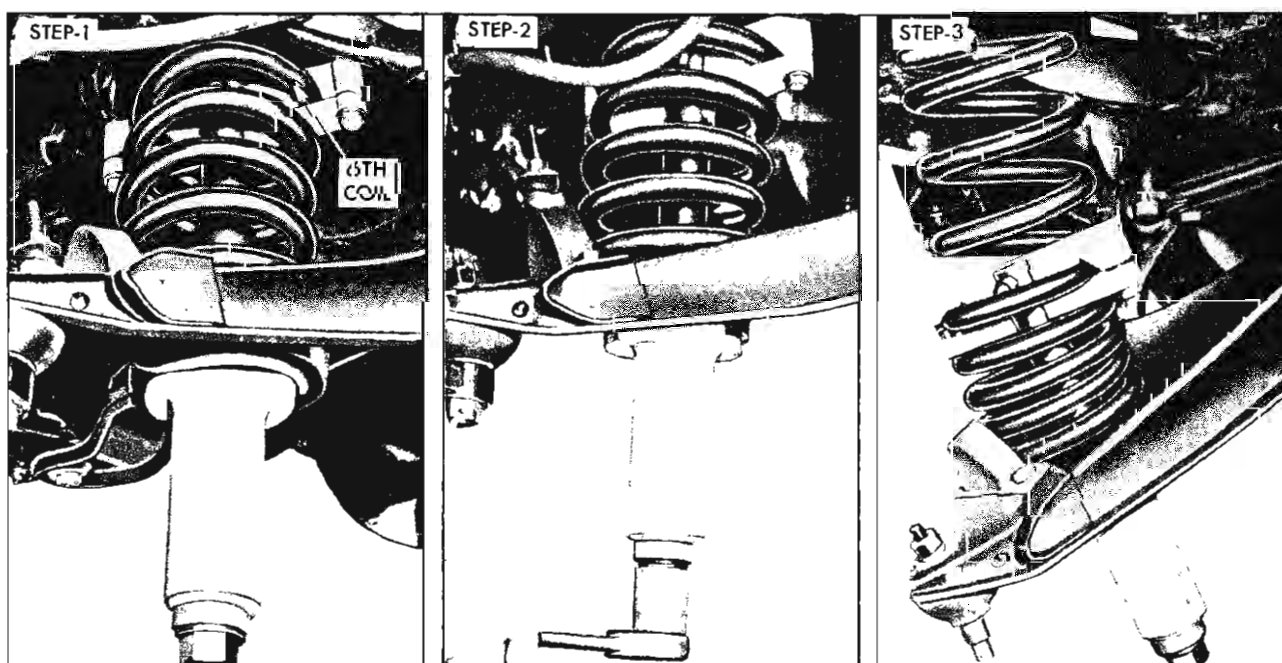

Fig. 14—Removing or Installing Front Coil Spring
- Position spacer under shock absorber mounting hole and against bottom of lower control arm. Install special bearing washer and Tool J-6874-5. Locate bearing against spacer and large washer against bearing. Feed screw (Tool J-6874-5) up through large washer bearing and spacer and thread into Tool J-6874 and tighten snugly (Step 1, Figure 14).
- Center shoe assembly on spring and tighten screw until a very slight compression is placed on spring (Step 2, Figure 14). Then firmly tighten down the two capscrews securing the upper and lower shoes to spring.
6. Turn head of screw until spring is compressed just enough to clear the spring tower, then remove the lower ball joint to steering knuckle nut (Step 3, Figure 14).